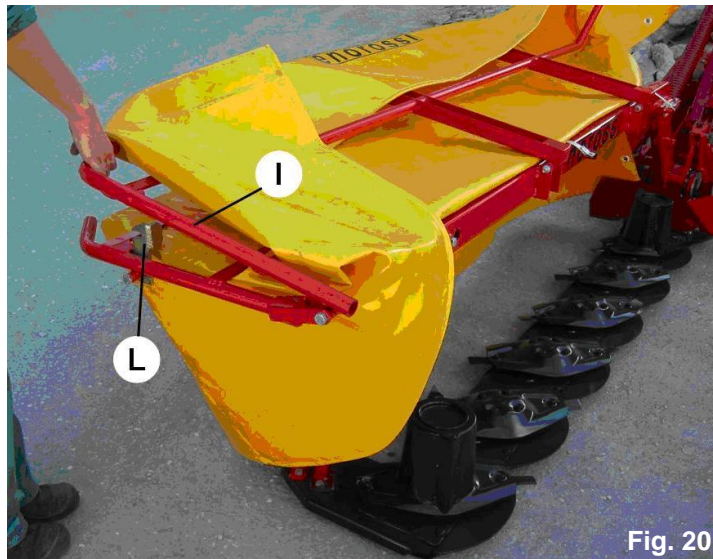

Fig. 20
2. turn front guard **I** (**fig. 20**) backward until the fastening point with hook **L**;